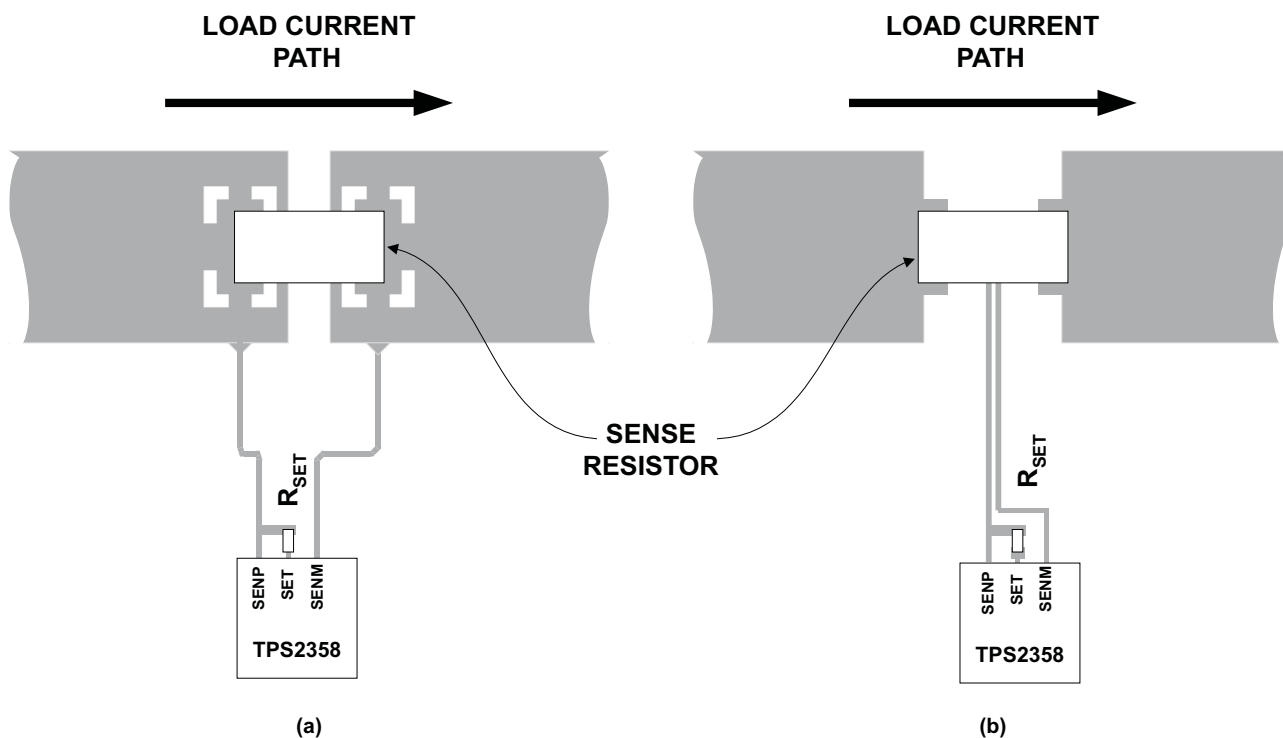

Figure 26. Recommended R_{SENSE} Layout
2. SENMx and SENPx runs must be short and run side by side to maximize common mode rejection. Kelvin connections should be used at the points of contact with R_{SENSE} (Figure 26).